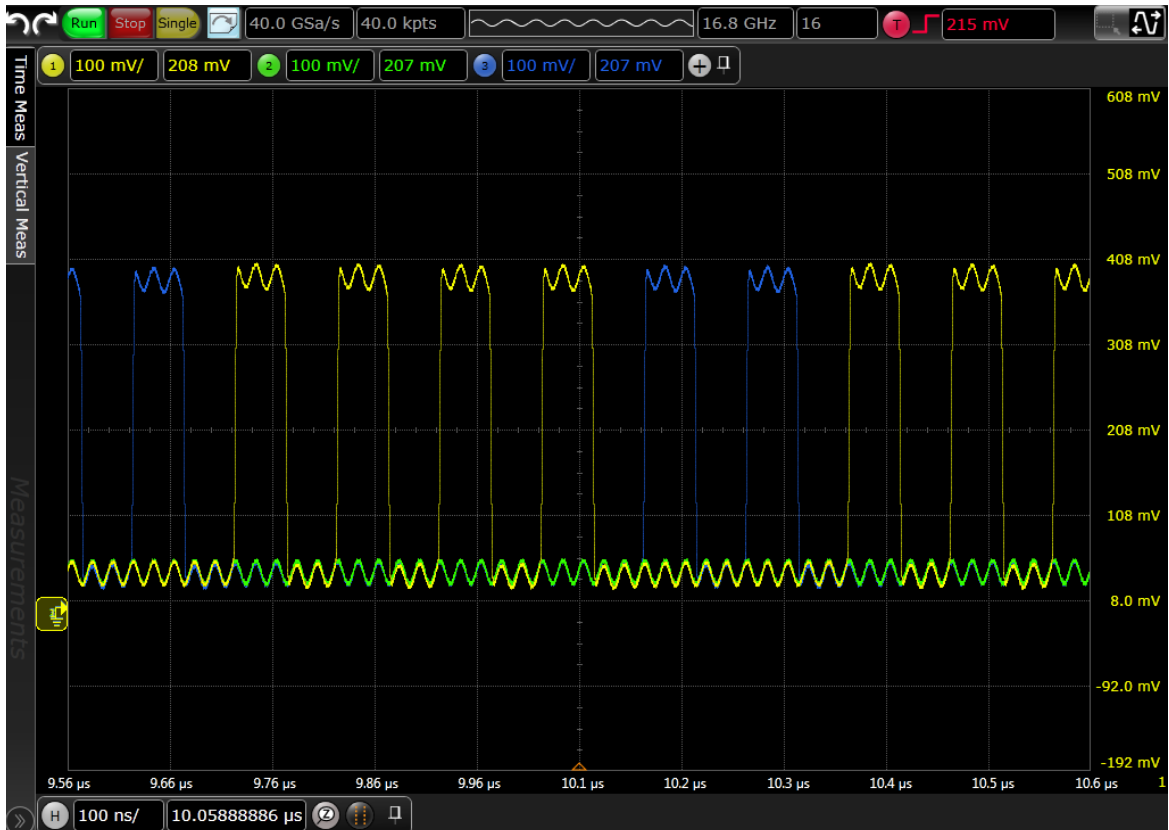

Figure 6 Low Power interference
- 3 Figure 6 shows the Low Power interference with a frequency of 50 MHz.